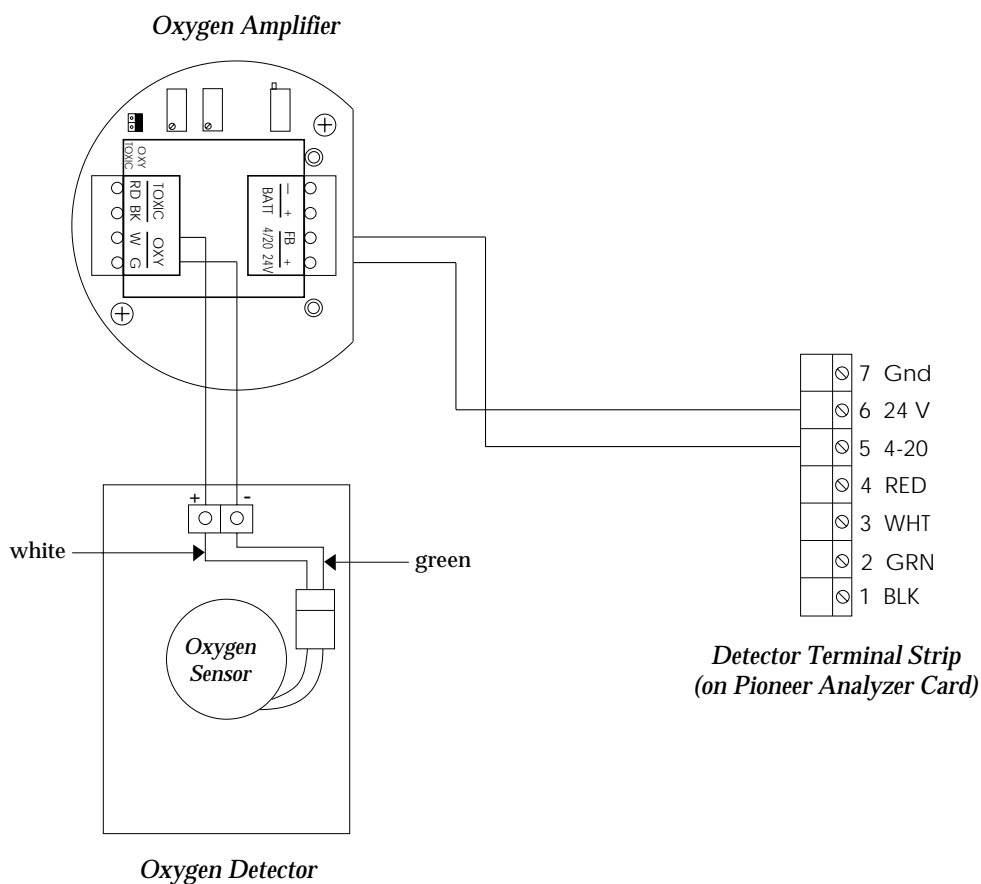

Figure 3: Wiring the Oxygen Transmitter to the Pioneer Gas Monitor
If necessary, connect the sensor terminal block and detector terminal strip as shown in Figure 3.
6. Verify that the jumper block is installed over the **OXY** selector of the amplifier type selector as shown in Figure 3.
8. Connect the two wires to the interconnect terminal strip as follows (see Figure 3.)
12. Connect the wires to the detector terminal strip of the applicable analyzer card as shown in Figure 3. The detector terminal strip is the 7-point terminal strip (terminals 1 through 7) on the card.